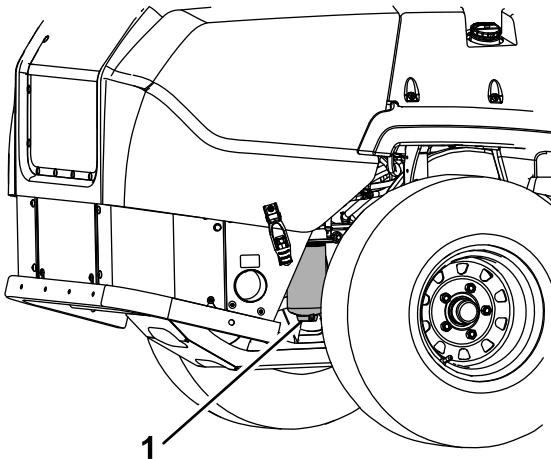

Figure 45
4. Open the drain plug on the water separator approximately 1 turn to allow water and other contaminants to drain (Figure 45).